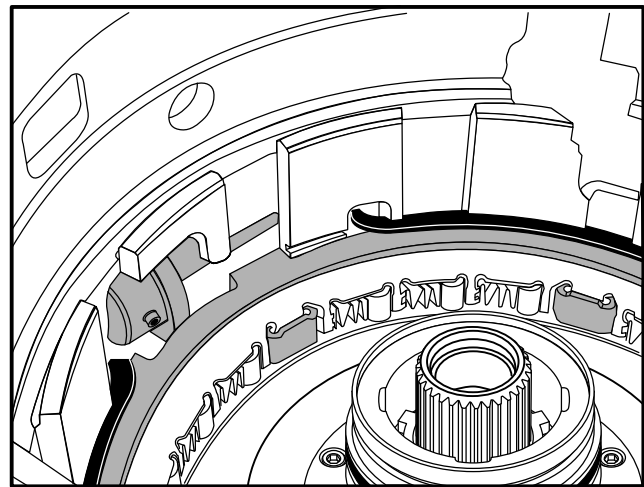

Figure 187
**Note:** *Snapring opening "must" be placed as shown in Figure 187.*